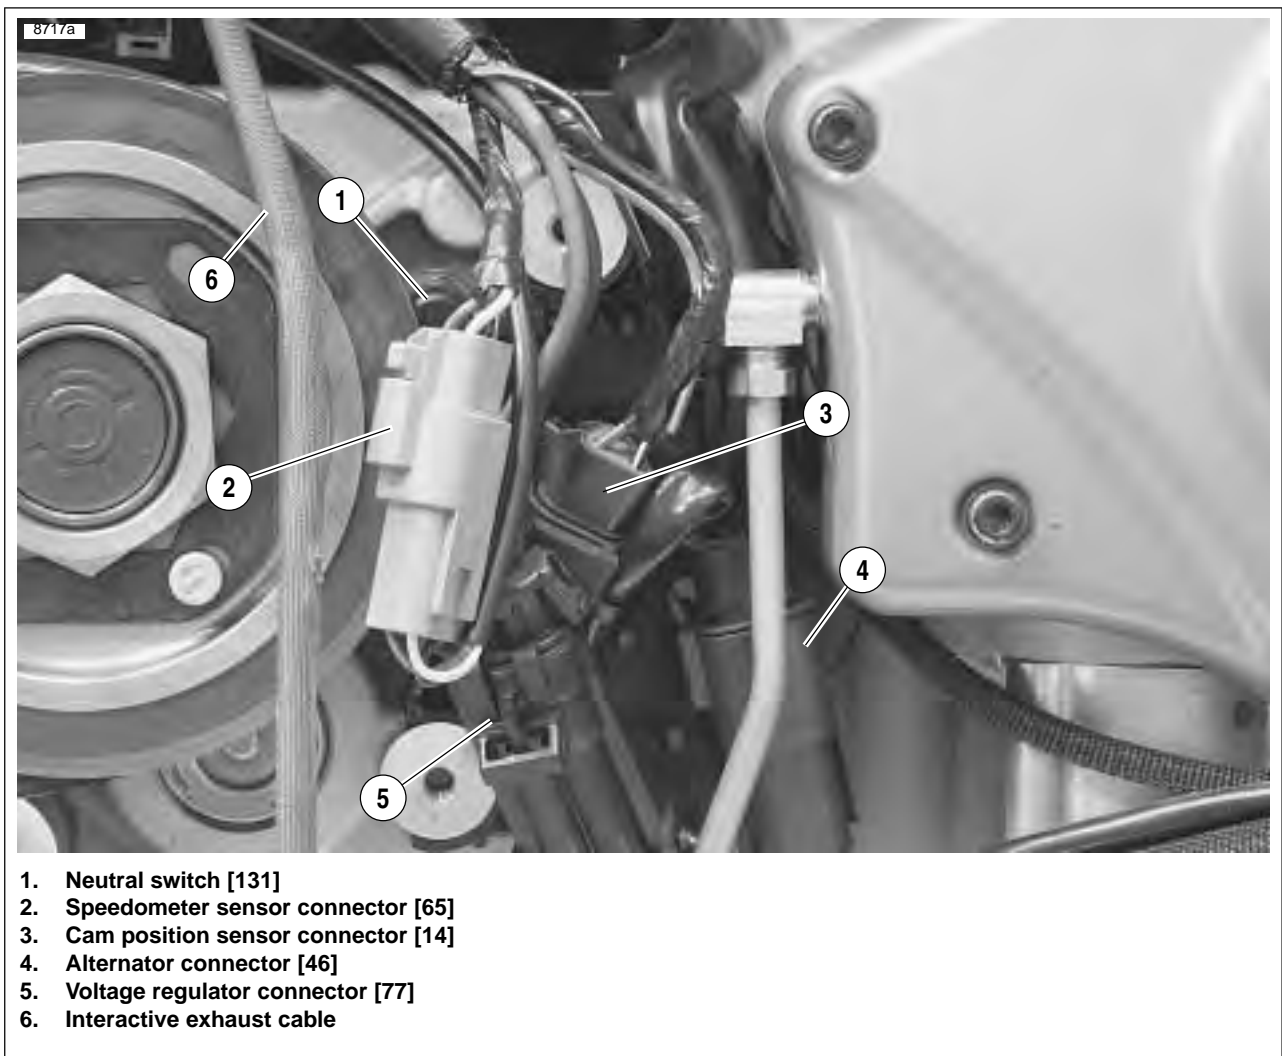

Figure 3-23. Electrical Connectors
- c. See Figure 3-23. Separate alternator connector [46] and voltage regulator connector [77].
32. See Figure 3-23. Disconnect electrical components: